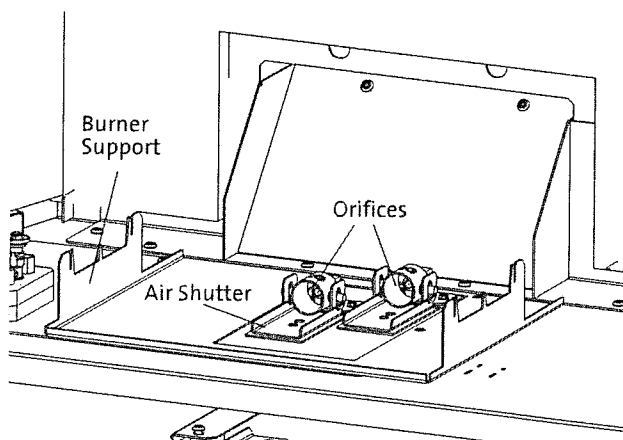

Figure 6.6
2. Use a 1/2" or 13 mm deep socket to remove the original orifices and replace them with the ones provided in the kit appropriate for gas type. See fig. 6.6.